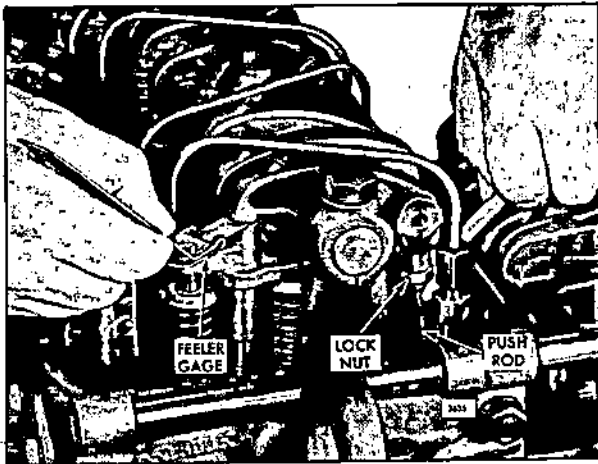

Fig. 3 - Adjusting Valve Clearance
4. Place a .017" feeler gage, J 9708, between the valve bridge and the valve rocker arm pallet, Fig. 3. Adjust the push rod to obtain a smooth "pull" on the feeler gage.